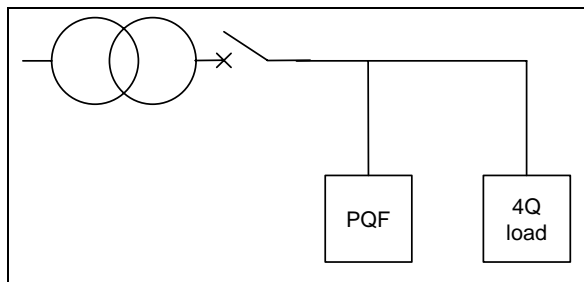
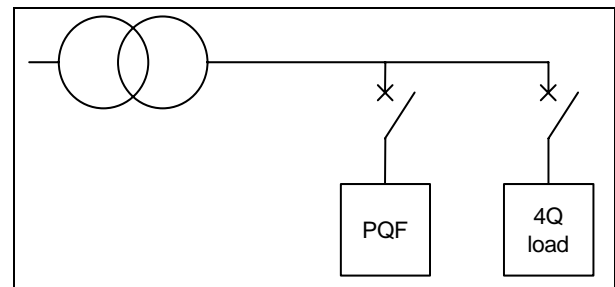

Figure 7.8. Incorrect connection in the case of 4Q-loads
Figure 7.9. Correct connection in the case of 4Q-loads
- In case of regenerative loads (e.g. loads that may inject active energy to the network, usually called 4Q-loads), it is very important to connect the PQF outside the protection of this load. Indeed, consider Figure 7.8, where a common protection is installed for both the regenerative load and for the PQF. When the load re-injects energy to the network and the mains protection trips, the whole energy may be pushed into the PQF, which may become severely damaged. Figure 7.9 shows the correct protection scheme for regenerative loads. In this case, if the breaker of the load trips, the PQF is isolated from the energy fed back by the drive.